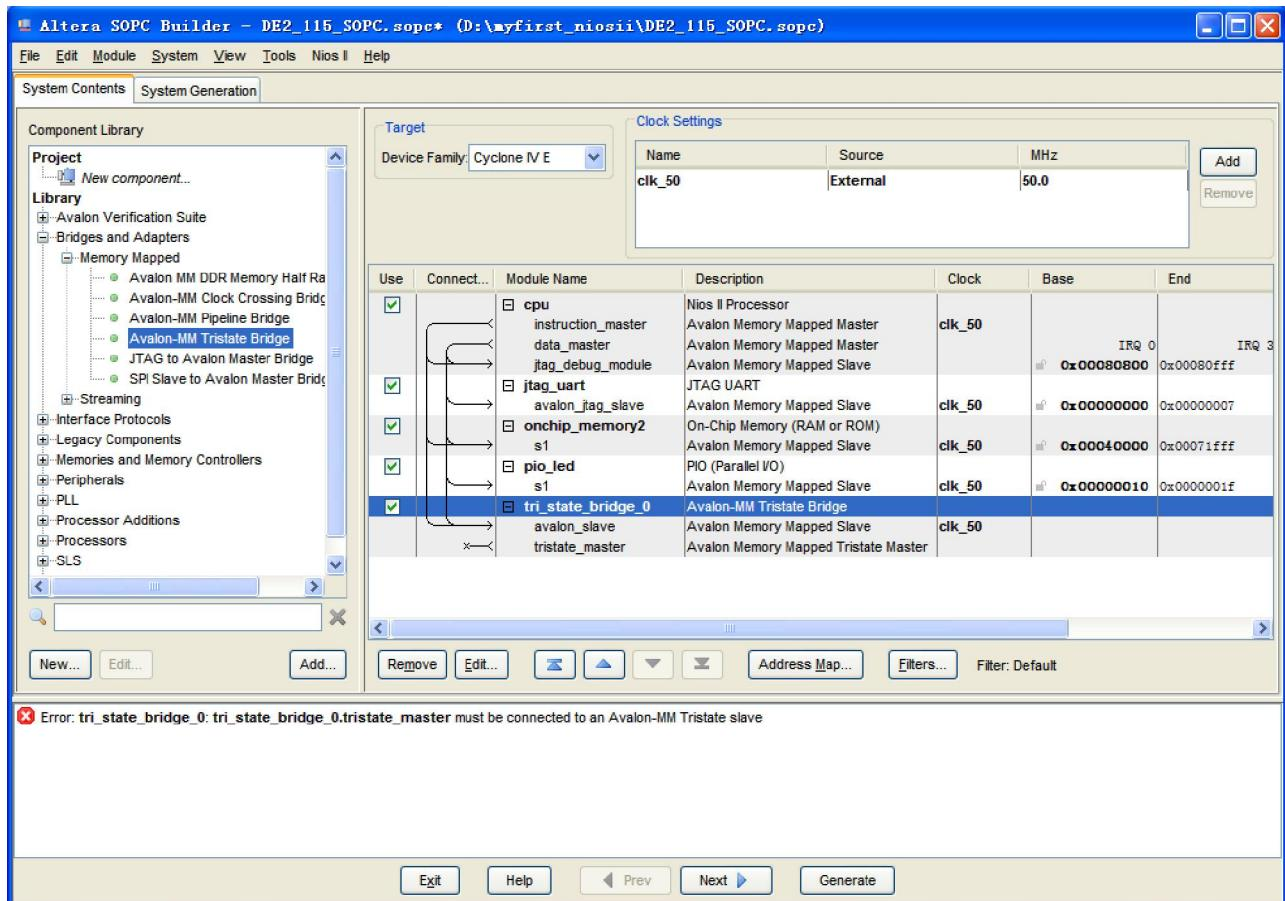

Figure 3-3 Add Avalon-MM Tristate Bridge Component
2. Click **Finish** to close Avalon-MM Tristate Bridge box, and return to the window as shown in Figure 3-3.